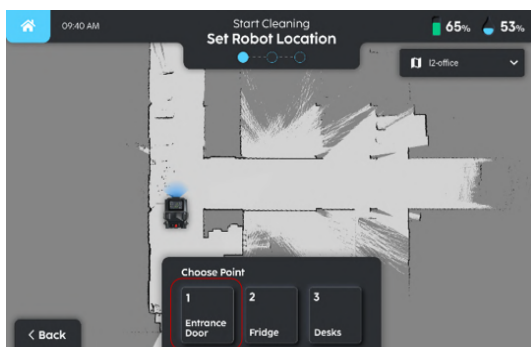
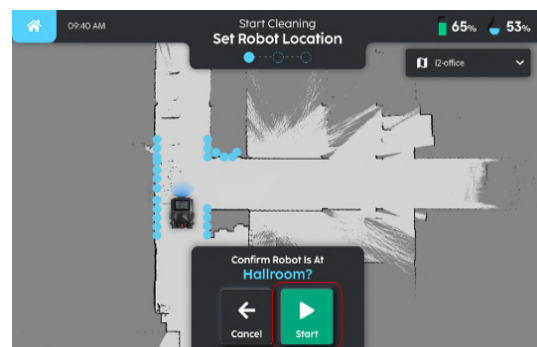

FIGURE 6-2
FIGURE 6-3
1. Set the machine's location on the map (**Fig. 6-2**) and select 'START' (**Fig. 6-3**).